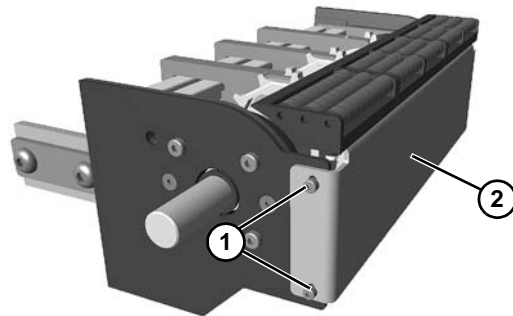

Figure 63
4. Remove two socket head screws (**Figure 63, item 1**) on each side of drive tail assembly (**Figure 63, item 2**).